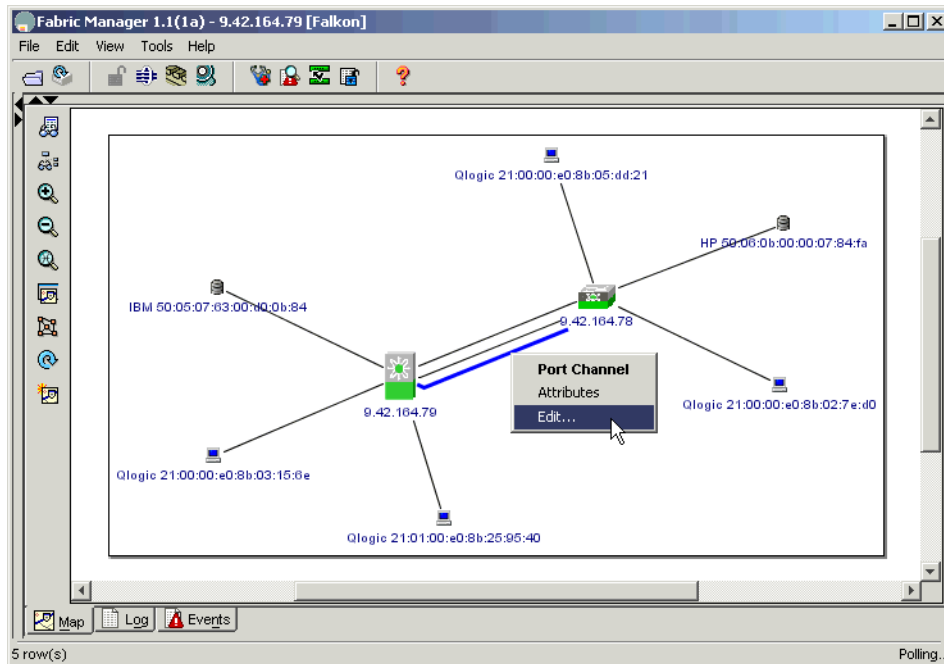

Figure 2-86 Adding ports to PortChannel 1
1. Click PortChannel with the right mouse button, and choose the option **Edit...** from the menu that opens, as shown in Figure 2-86.